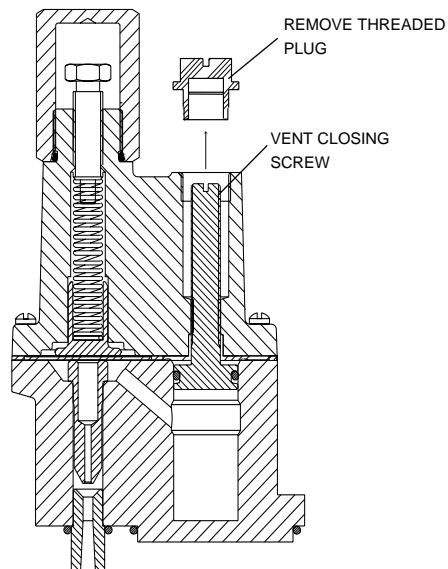

Figure 4.1 Closing the check valve
- 2: Close pump check valve by turning the vent closing screw as far down as possible. (See Fig 4.1)
- 2: After completion of line and/or tank tests, release pressure by turning the vent closing screw as far up as possible. (See Fig 4.1)